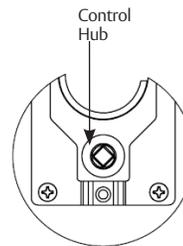

Figure 28
2. Align spindle with diamond hole in Control Hub and assemble indicator onto backing plate. (Figure 28)